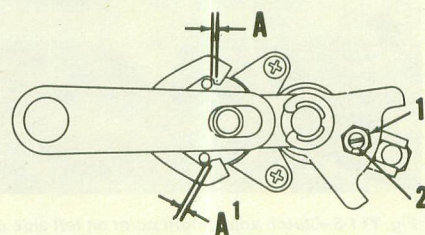

Fig. Y11-15-Turn eccentric screw (2) until clearance is (A) is equal.
Gear change lever arm should be adjusted so that clearance (A—Fig. Y11-15) is equal at both points. Loosen lock nut (1) and turn eccentric screw (2) until clearance is correct.